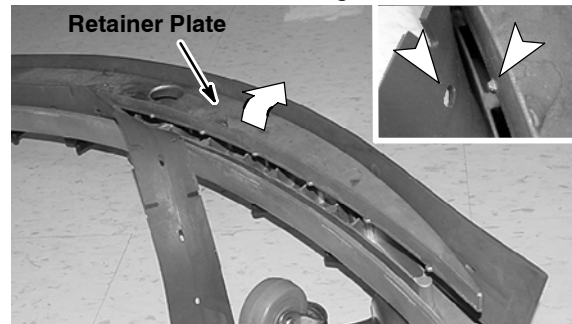

FIG. 61
4. To replace the front blade, remove the rear band and fully loosen the four squeegee assembly knobs, do not remove the knobs. Lift and tilt the retainer plate to access the front blade (Figure 61). Rotate the front blade to a new wiping edge and return the retainer plate. Make sure the retainer plate tabs engage the blade slots. Reinstall the band then retighten the knobs.